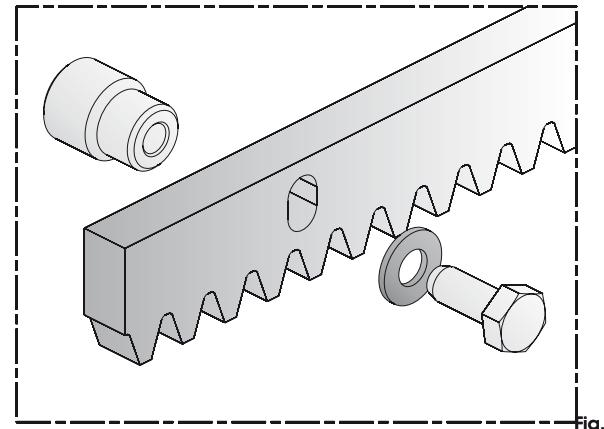

Fig. 9
1. Prepare the rack (supplied on request), with the supplied Hex-head 8 x 25 screws, and spacers to be welded, as shown in Fig. 9. To avoid having to weld on the gate, galvanised through-spacers and Hex-head 8 x 50 securing screws are available.
5. Secure the rack element to the leaf with a clamp (fig. 9).